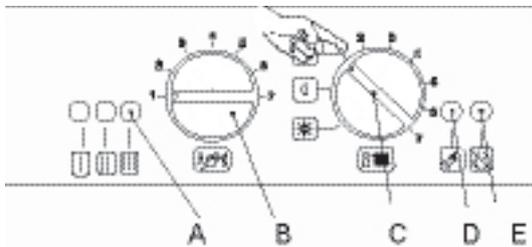

Figure 5.2
- 2 Turn on the electricity supply to the boiler, switching on the circuit breaker. The appliance operation light A (figure 5.2) will flash every 4 seconds (stand-by condition).
- 3 If the boiler is to be used for c.h. position the function selector C as in figure 5.2. The appliance operation light A will flash every 2 seconds (operating boiler).
- The appliance operation light A (figure 5.2) will flash every 4 seconds (stand-by mode).